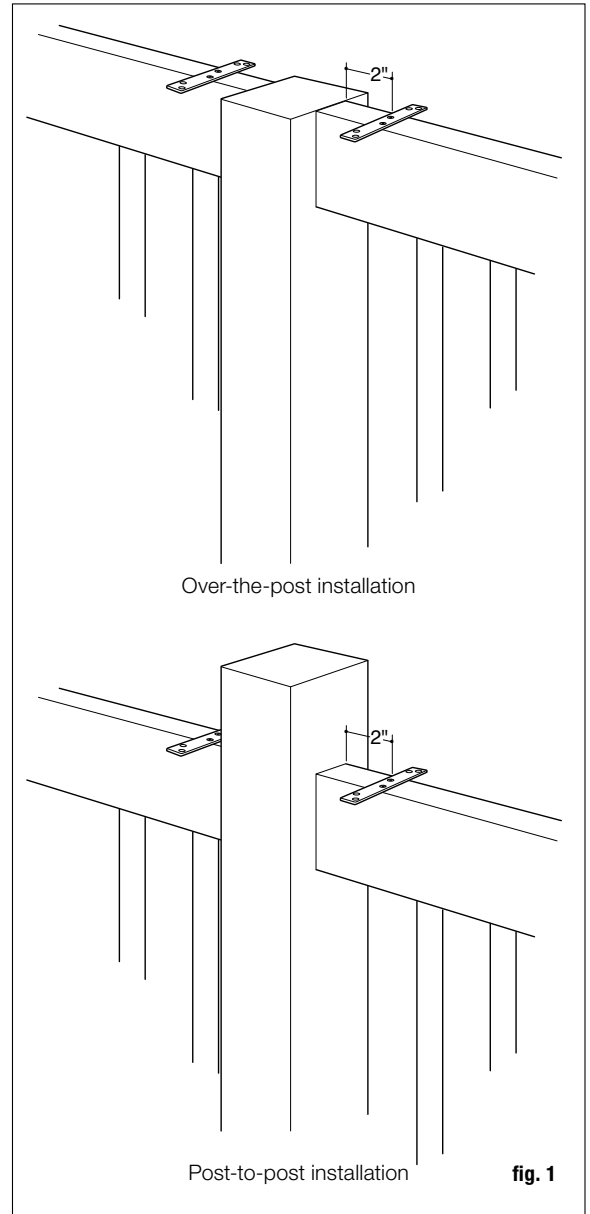

fig. 1
Step 2 Install one deck board mounting bracket at each end of the rail section, 2" from the post. Center the mounting bracket across the top of the rail with the countersunk center holes facing up (fig. 1, Over-the-post installation).
Step 3 Predrill through the two center holes in the mounting bracket using a drill bit (1/8" into aluminum, 7/64" into wood or composite). Screw the mounting brackets to the top of the rail using (2) of the #8 x 3/4" SS screws. *Note: If installing a deck board cap rail on a Deckorators ALX Classic or CXT Classic Rail—rout out the underside of the cap rail so that it will slide over and around the rail bracket and bracket cover. Rout the channel approximately 3-3/4" wide x 11/16" deep x 1-3/4" long.*
Step 2 Install one deck board mounting bracket 2" from the post. Center the mounting bracket across the top of the rail with the countersunk center holes facing up (fig. 1, Post-to-post installation).
Step 3 Pre-drill through the two center holes in the mounting bracket using a drill bit (1/8" into aluminum, 7/64" into wood or composite). Screw the mounting brackets to the top of the rail using (2) of the #8 x 3/4" SS screws. Position the remaining 4 mounting brackets at equal intervals along the top of the rail and repeat the process.